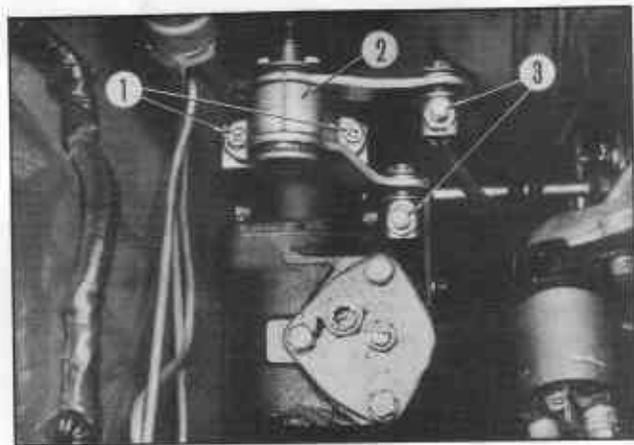

Fig. TM-57 Lower bracket removal
5. Disconnect the shift rods from the change speed levers by removing the cotter pin, plain washer and spring washer (See Fig. TM-57).